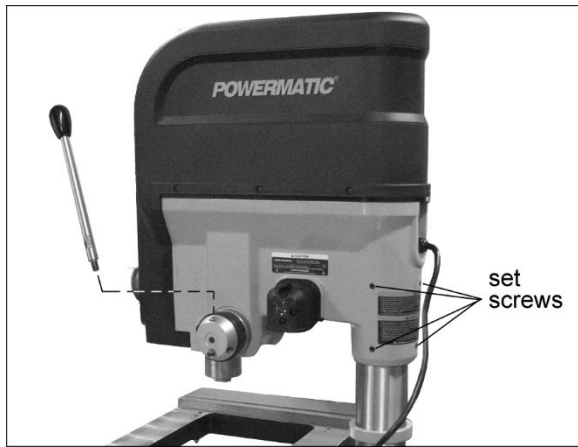

Figure 6-10
1. Adjust head parallel to base, and tighten four (4) set screws (Figure 6-10).
2. Install three downfeed handles into hub on either side of drill head (Figure 6-10). Screw them in completely; use a wrench on the shaft flats to tighten.